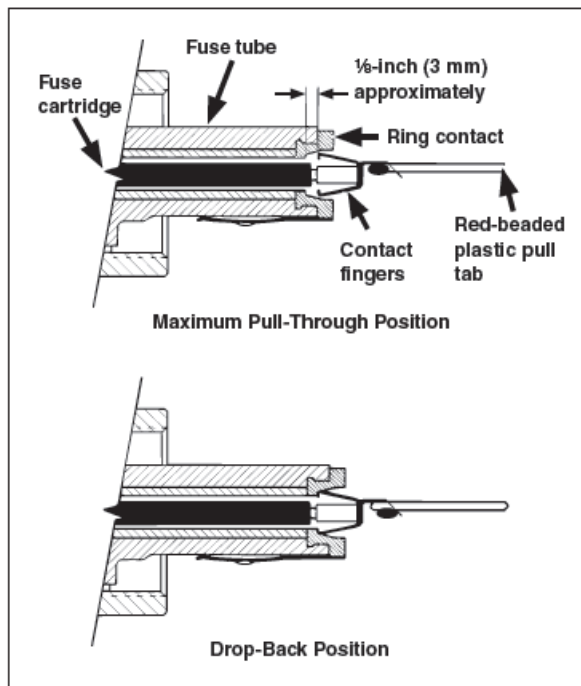

Figure 3. Installation of Fault Tamer Fuse Limiter Cartridge.
- **STEP 4.** Carefully pull on the red-beaded plastic pull tab to pull the fuse cartridge through the fuse tube, against spring tension, until the contact fingers expand into the ring contact on the fuse tube. See Figure 3 (top). Avoid jerking and excessive overtravel. Slowly release the red-beaded plastic pull tab, permitting the contact fingers to rest on the ring contact. See Figure 3 (bottom). Remove the red-beaded plastic pull tab as shown in Figure 4. Discard the plastic pull tab after removal.